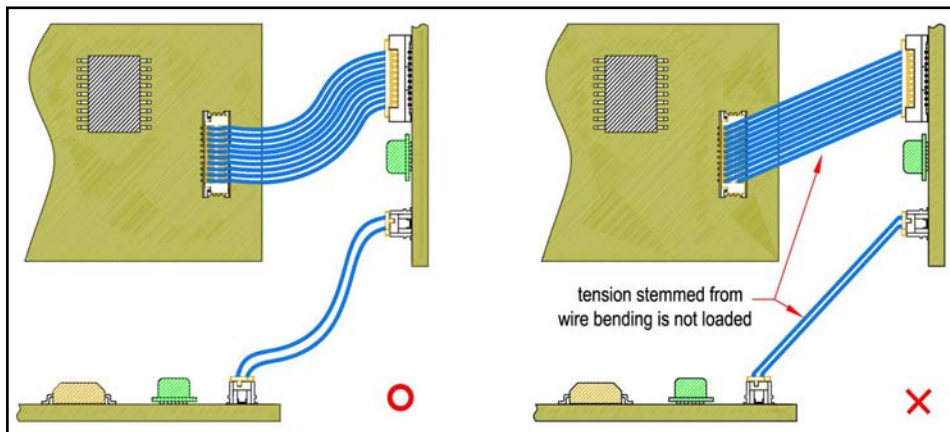

figure 5.1
- 5.1 Conduct wire handling carefully so that tension stemmed from wire bending is not loaded. Provide space above connector in order to form wire by bending and do not apply tension to connector as below. (see figure 5.1)